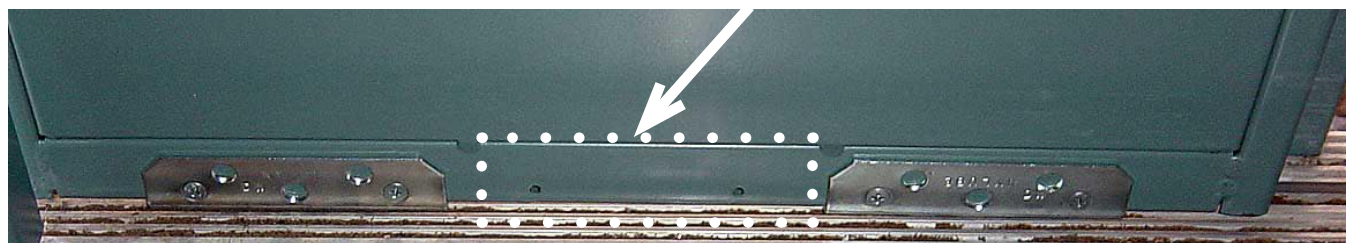

Figure 22 Installing Fire Retainer Gib
2. Position the fire retainer gib at the pre-drilled holes on the inside trailing edge of the landing door. Secure the fire retainer gib (shown in Figure 22) with the hardware provided.